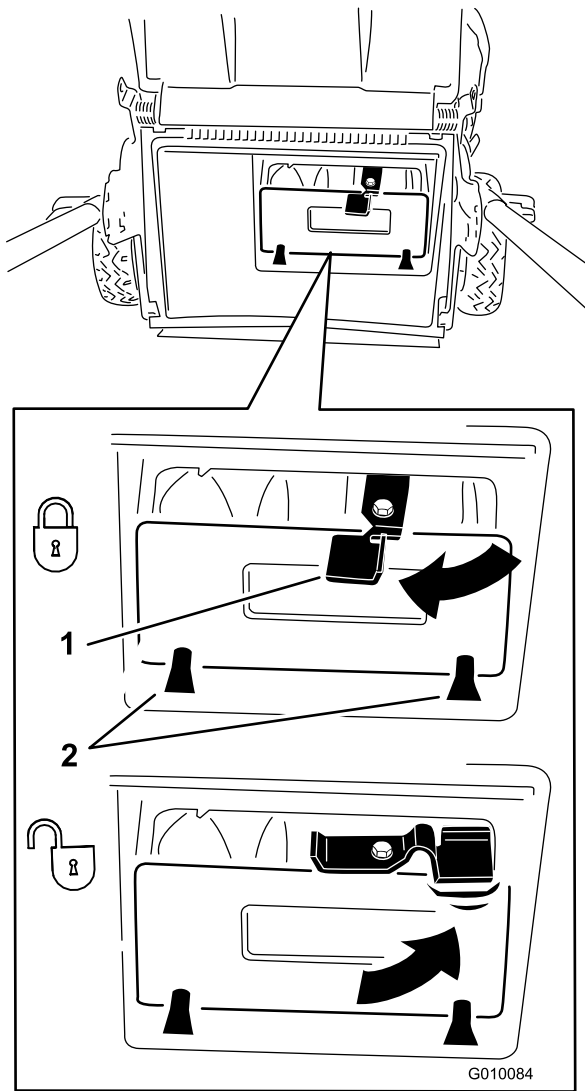

Figure 19
**Important:** Ensure that the rear-discharge plug is locked in place. To lock the plug: Raise the discharge deflector (Figure 18), firmly push the plug in until it snaps into place behind the tabs, and rotate the lever on the plug to the left (Figure 19).
**Note:** To unlock the plug, rotate the lever on the plug to the right (Figure 19).